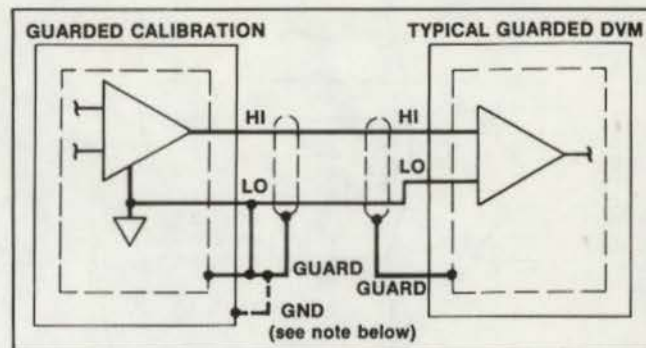

Figure 111.
**What do I do with the guard when using a guarded source? (See Figure 111)**